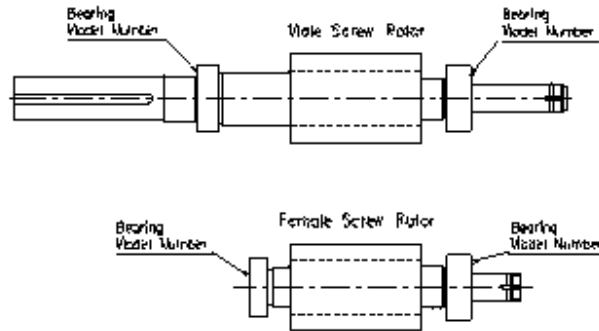

Fig. 3-3
- ① The inner rings are interchangeable among the same models of roller bearings.
- ② Place the inner rings in the direction as shown in Fig. 3-3 so that the model numbers of the bearings can be confirmed after the inner rings are inserted.
- ③ If the inner rings cannot be smoothly inserted into the screw rotor, repeat the entire procedure.